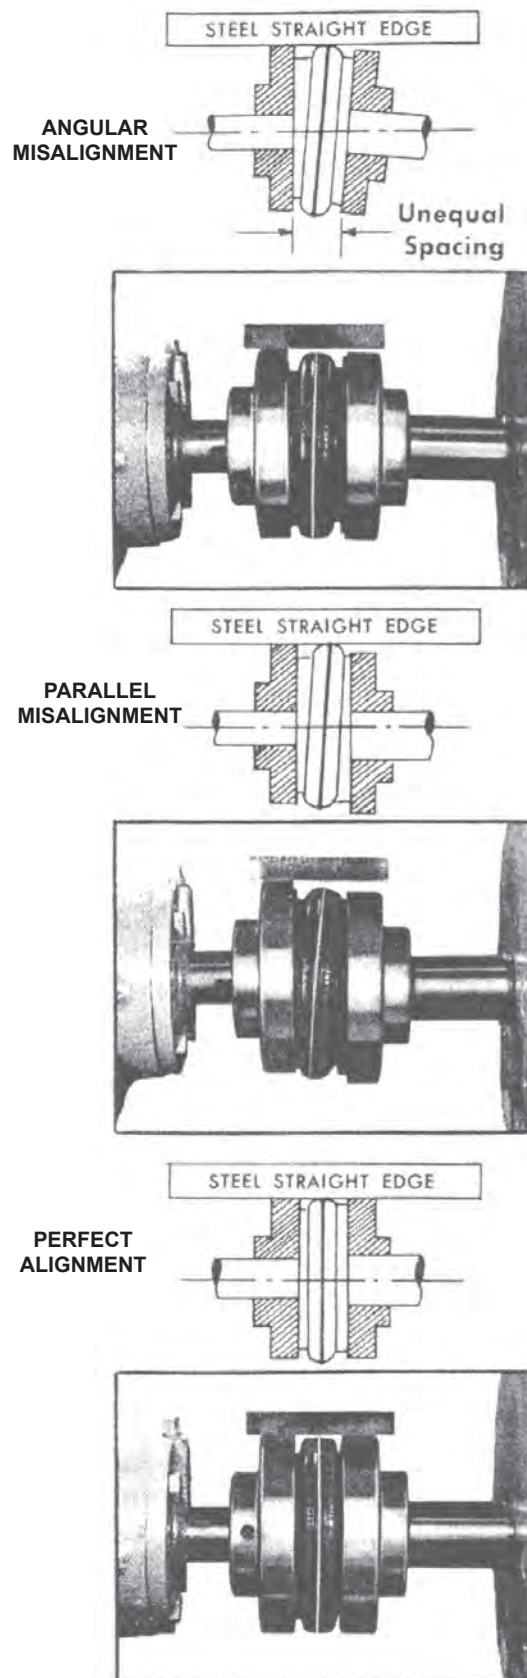

Figure 3
**NOTE:** In most cases where extreme accuracy is necessary, a dial indicator may be used to align coupling. Angular alignment check is made by inserting a taper gauge or feelers between the coupling faces at 90-degree intervals around the coupling. The unit will be in angular alignment when the coupling faces are exactly the same distance apart at all points. (See Figure 3).